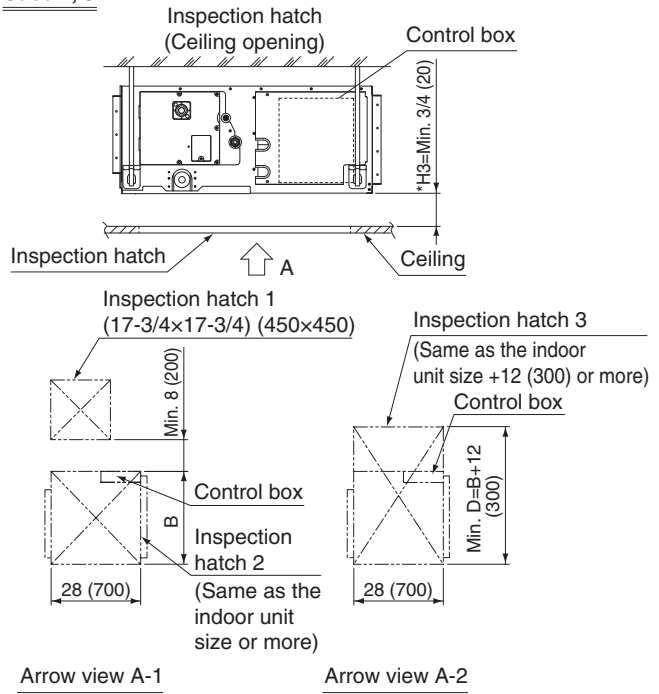

Fig. 2-3
2. Inspection hatch 1 (17-3/4 × 17-3/4 (450 × 450)) for the control box and inspection hatch 2 for the lower part of the product (see arrow view A-1). (Refer to Fig. 2-3)
3. Inspection hatch 3 for the lower part of the product and the lower part of the control box (see arrow view A-2). (Refer to Fig. 2-3)